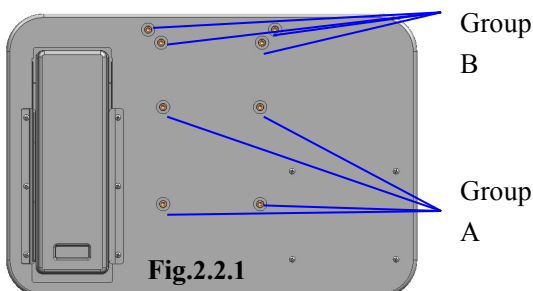

Fig.2.2.1
3. Before attaching the instrument table on to the electric lifting table, please screw off four M6x18mm bolts with the spanner (Fig.2.2.1 Group A) .
6. Remove the four screws of B Team with the screw driver, take out the Chin-rest, ensure the four hole on head rest aim the screw hole of B team (Fig.2.2.1 Group B), re-tighten the previously removed screw and make head-rest